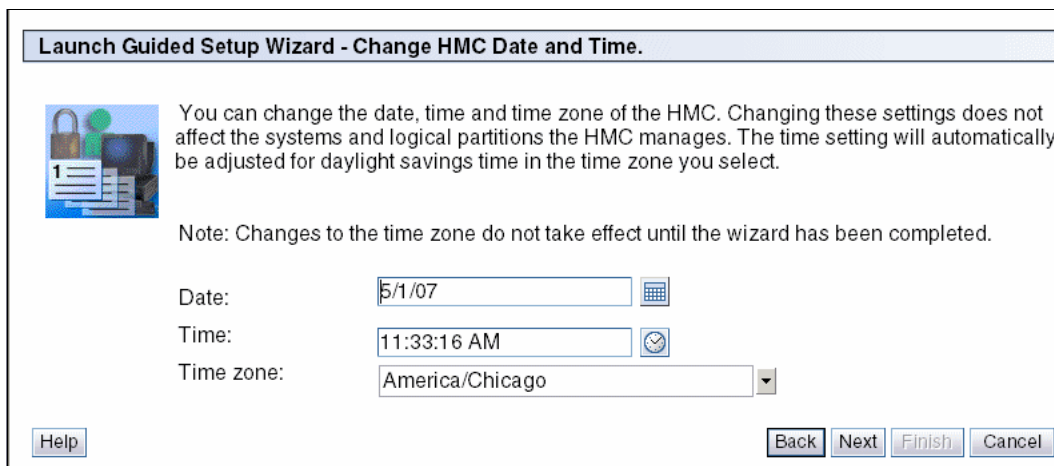

Figure 3-11 Launch Guided Setup Wizard - Change HMC Date and Time
4. In the Launch Guided Setup Wizard - Change HMC Date and Time page, enter the correct date and time and time zone for your location (Figure 3-11). This information is typically the time zone for the server, assuming that the HMC is the local machine. For a remote machine, you should choose the correct time zone according your location. Click **Next** to continue with the Guided Setup wizard.